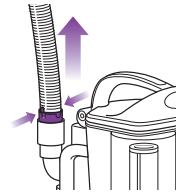

Fig. 26
- Detach the stretch hose from the back of the detachable canister by squeezing the tabs together and pulling up. (Fig. 26) Straighten out the hose and look inside for blockages.